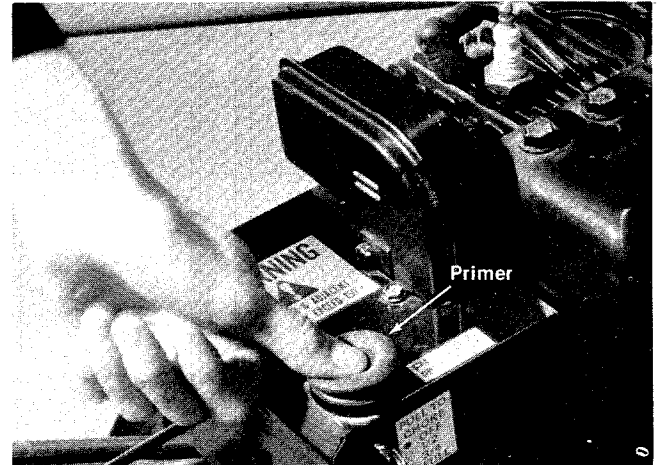

FIGURE 30.
2. Push primer two (2) or three (3) times. See figure 30.